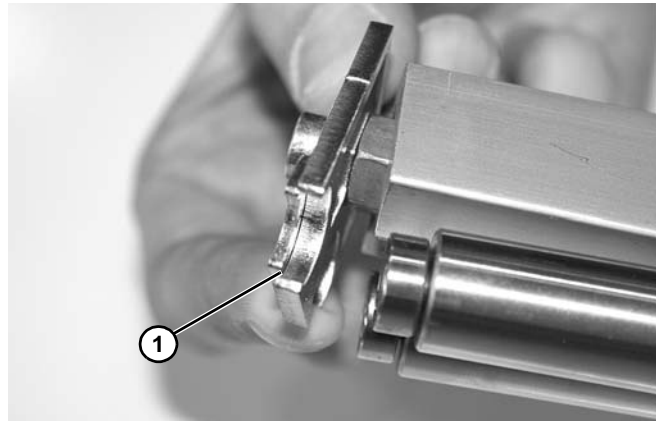

Figure 100
6. Remove outer and inner end plate (**Figure 100, item 1**).